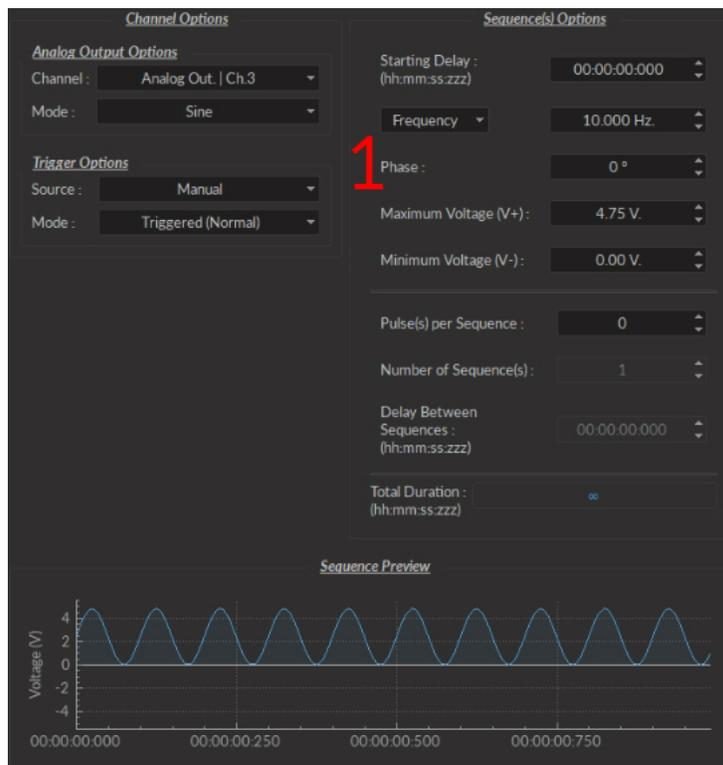

Figure 3.12: Channel(s) configuration window, Analog Output Sine
- The **Sine** mode (Fig. 3.12) creates a sinusoidal pulse sequence with peaks at **V+** and **V-**. This includes all sequence options as the **CW** and **Square** mode, save the following.
- The **Time ON** option is changed for the **Phase** option (Fig. 3.12). This allows the choice of the sine wave phase, in degrees.